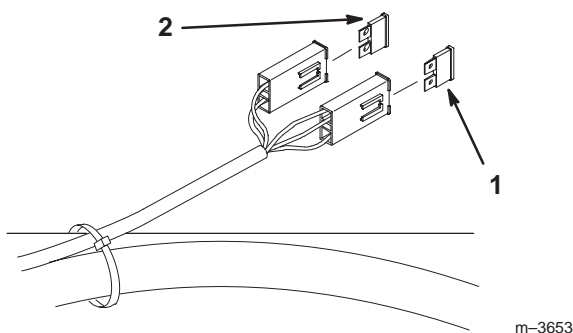

Figure 60
1. Raise the seat to gain access to fuse holder (Fig. 60).
2. To replace fuses pull out on the fuse to remove it (Fig. 60).